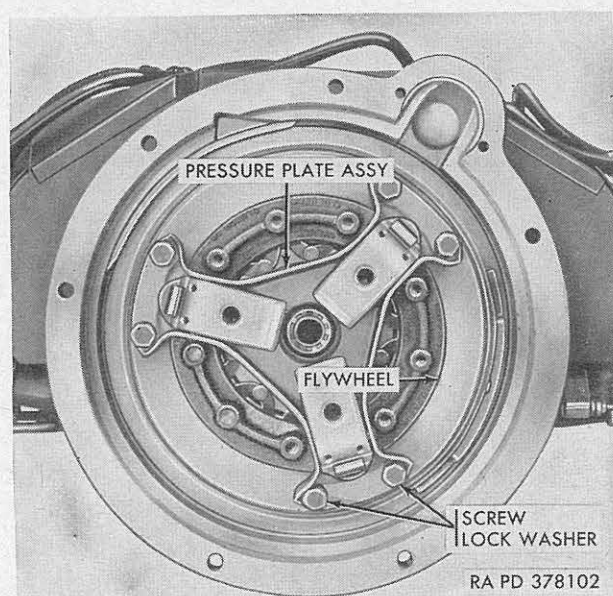
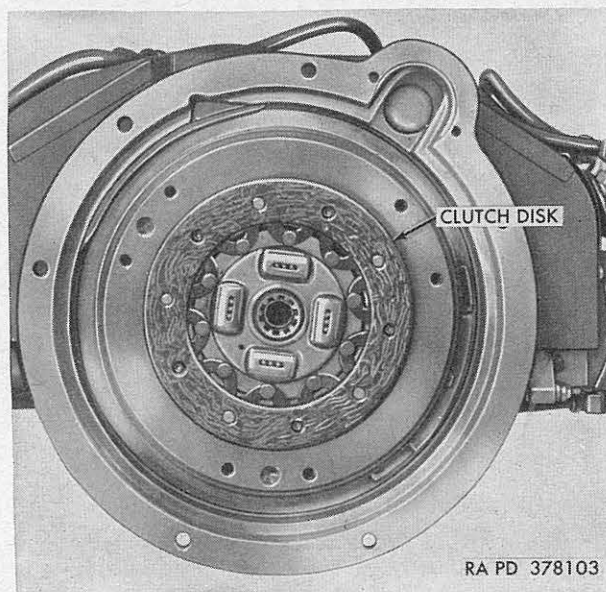
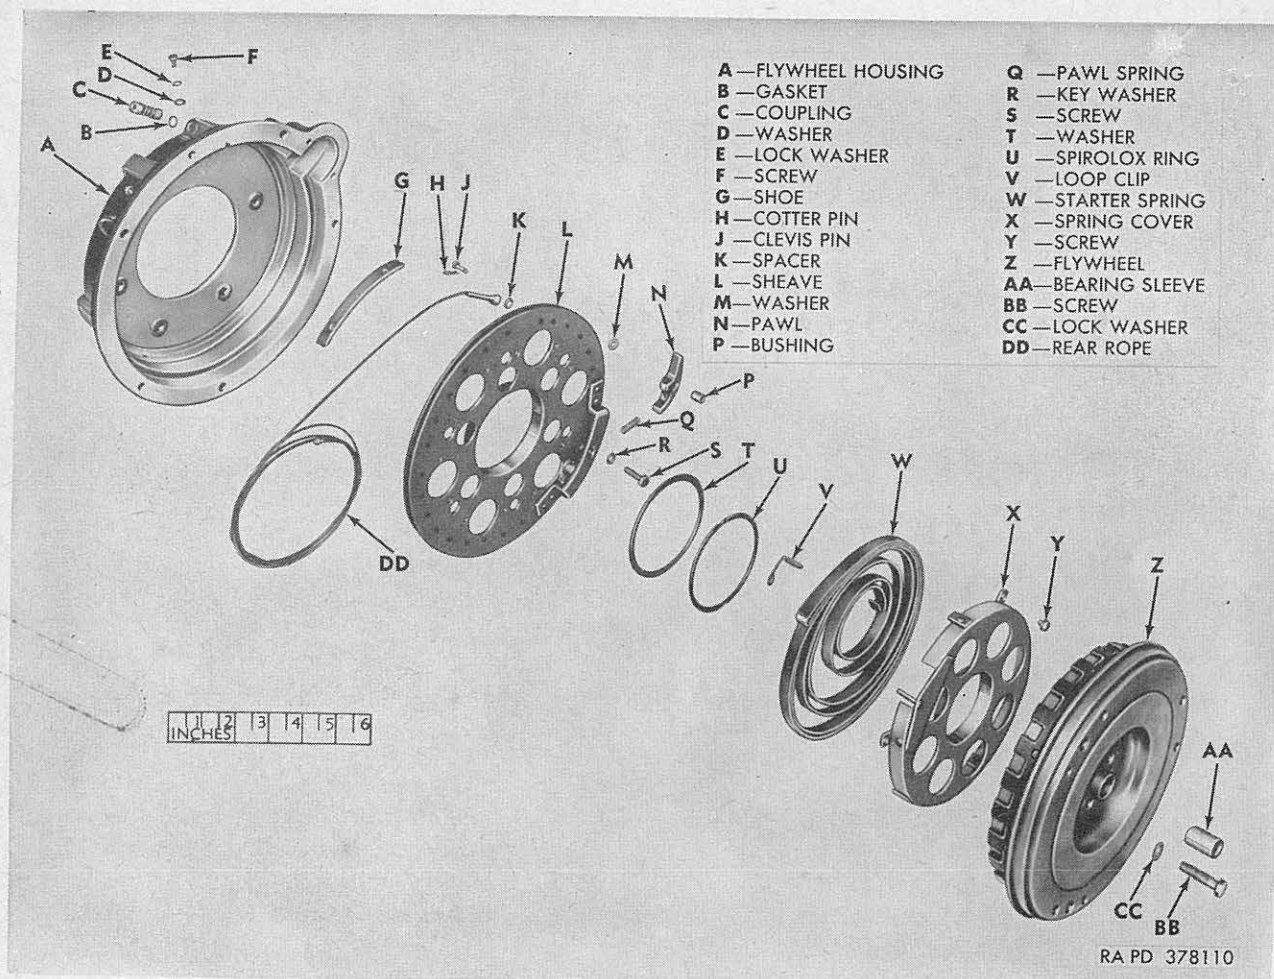

Figure 31. Rear view of engine with clutch installed.
Figure 32. Engine with clutch pressure plate removed showing clutch disk.
Figure 39. Exploded view showing relative positions of flywheel, flywheel housing and starter components.
In order to gain access to starter components it is necessary to remove the engine from the vehicle, the pressure plate from flywheel, and the flywheel from the crankshaft. Figures 31 through 38 show the parts at various stages of removal or assembly. Figure 39 shows parts from the flywheel to the flywheel housing arranged to show their relative positions when installed.
- (1) Remove engine from vehicle (par. 59).
- (2) Remove six hex-head screws (fig. 31) and lockwashers attaching clutch pressure plate to flywheel, and remove pressure plate assembly and clutch disk (fig. 32).
- (6) Position clutch disk (fig. 32) against flywheel (side with short hub toward